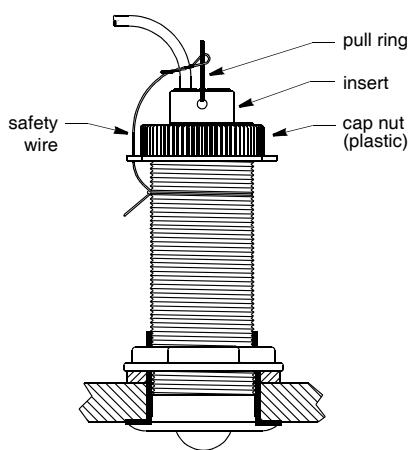

Figure 12. Safety wire (ST700 shown)
4. Attach the safety wire to prevent the insert from backing out in the unlikely event that the cap nut fails or is screwed on incorrectly (see Figure 12). Wrap one end of the safety wire tightly around the housing and twist it together with the long end. Keeping the wire taut throughout, lead it straight up and through the eye in the cap nut. Loop the wire through the pull ring and twist it securely to itself.
2. Remove the insert from the housing by removing the safety wire and unscrewing the cap nut (see Figure 12).
5. Hold the cap nut on the blanking plug while sliding it into the housing with the arrow on the top pointing forward toward the bow. Seat the plug with a twisting motion until the key fits into the notch. Screw the cap nut in place. **Hand tighten** only. Do not over tighten. Reattach the safety wire (see Figure 12).
10. Reattach the safety wire to prevent the insert from backing out in the unlikely event that the cap nut fails or is screwed on incorrectly (see Figure 12).